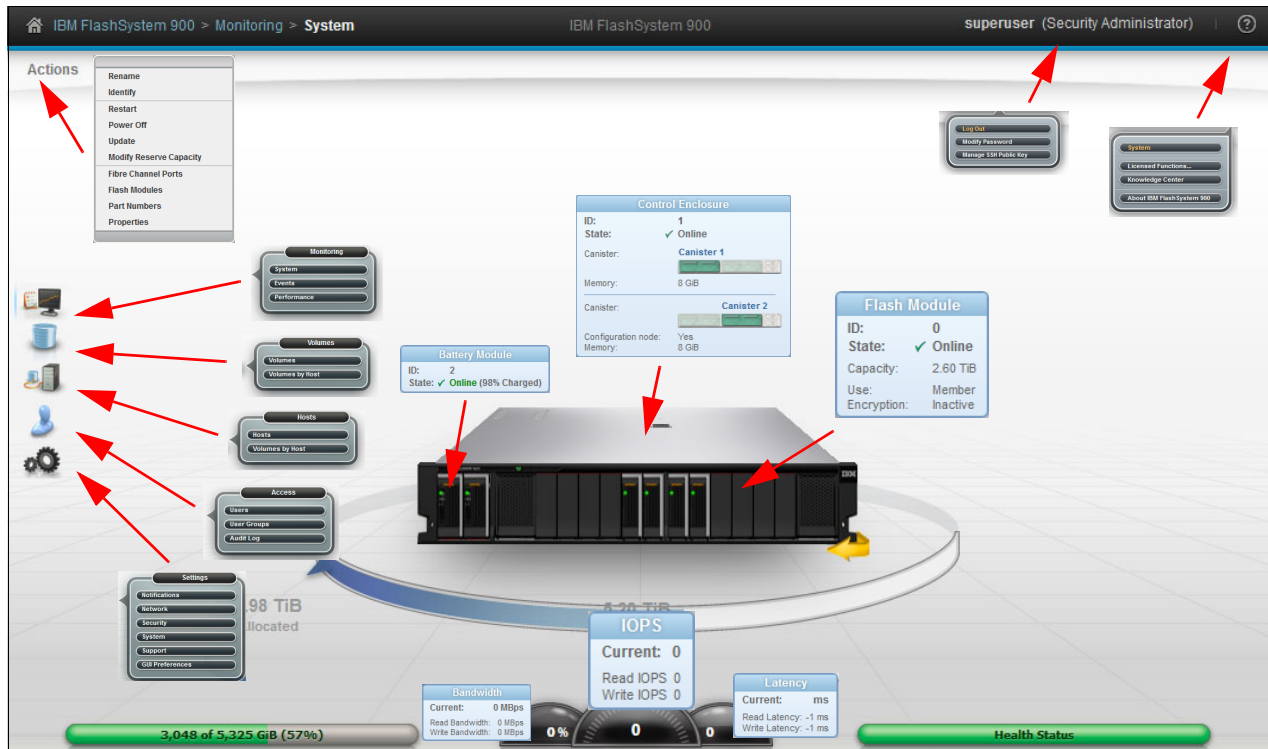

Figure 6-4 FlashSystem 900: Menu options
- ▶ Actions menu (upper left or right-click in the home window): For the list of actions on this menu, see Figure 6-4 on page 165.
- ▶ Component status indicators: These show the status of the components of the FlashSystem 900. See Figure 6-4 on page 165 for more details.
Navigating the management tool is simple. You can hover the cursor over one of the five function icons on the left side of the window, which highlights the function icon and opens a list of options. Figure 6-4 shows a list of the FlashSystem 900 software function icons and the associated menu options.
The **Monitoring** → **System** menu is the default menu and home page for the FlashSystem 900 GUI. It has three options as shown in Figure 6-4 on page 165: